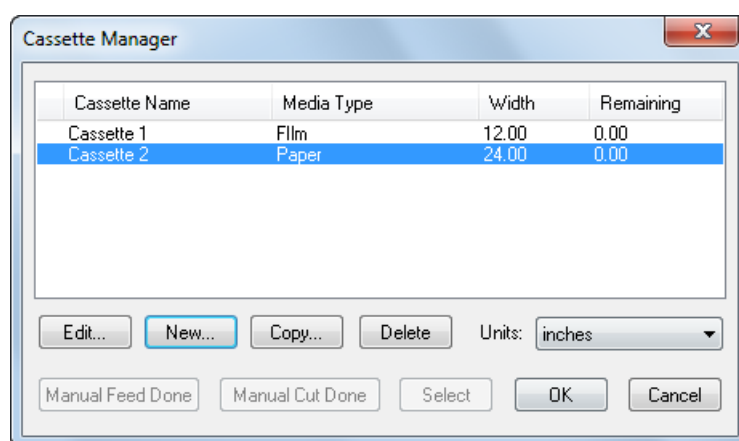

Figure 9.4 Cassette Manager dialog box
Before processing any jobs, you need to tell the RIP about the cassettes you are using and give details of the media currently in each cassette. You do this from the Cassette Manager dialog box. Click the **Cassette Manager** button in the Edit Page Setup dialog box or choose **Output > Cassette Manager** to open the Cassette Manager dialog box, as shown in Figure 9.4.
- If you perform a manual operation by using controls on the output device, you must inform the RIP. Display the Cassette Manager and click the button **Manual Cut Done** or **Manual Feed Done** whenever you perform the corresponding manual operation. See Figure 9.4, page 268, and the following description of the buttons.